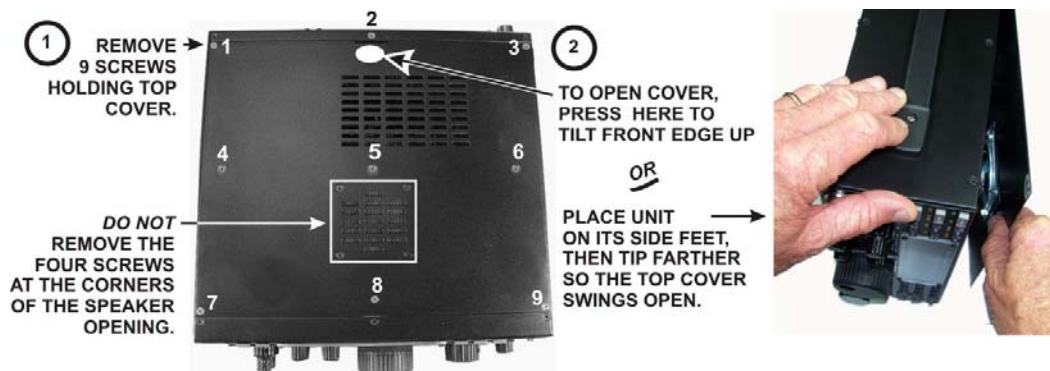

Figure 1. Removing the Top Cover.
Remove the K3 top cover as shown in Figure 1.
- Replace the nine flat head screws shown in Figure 1.